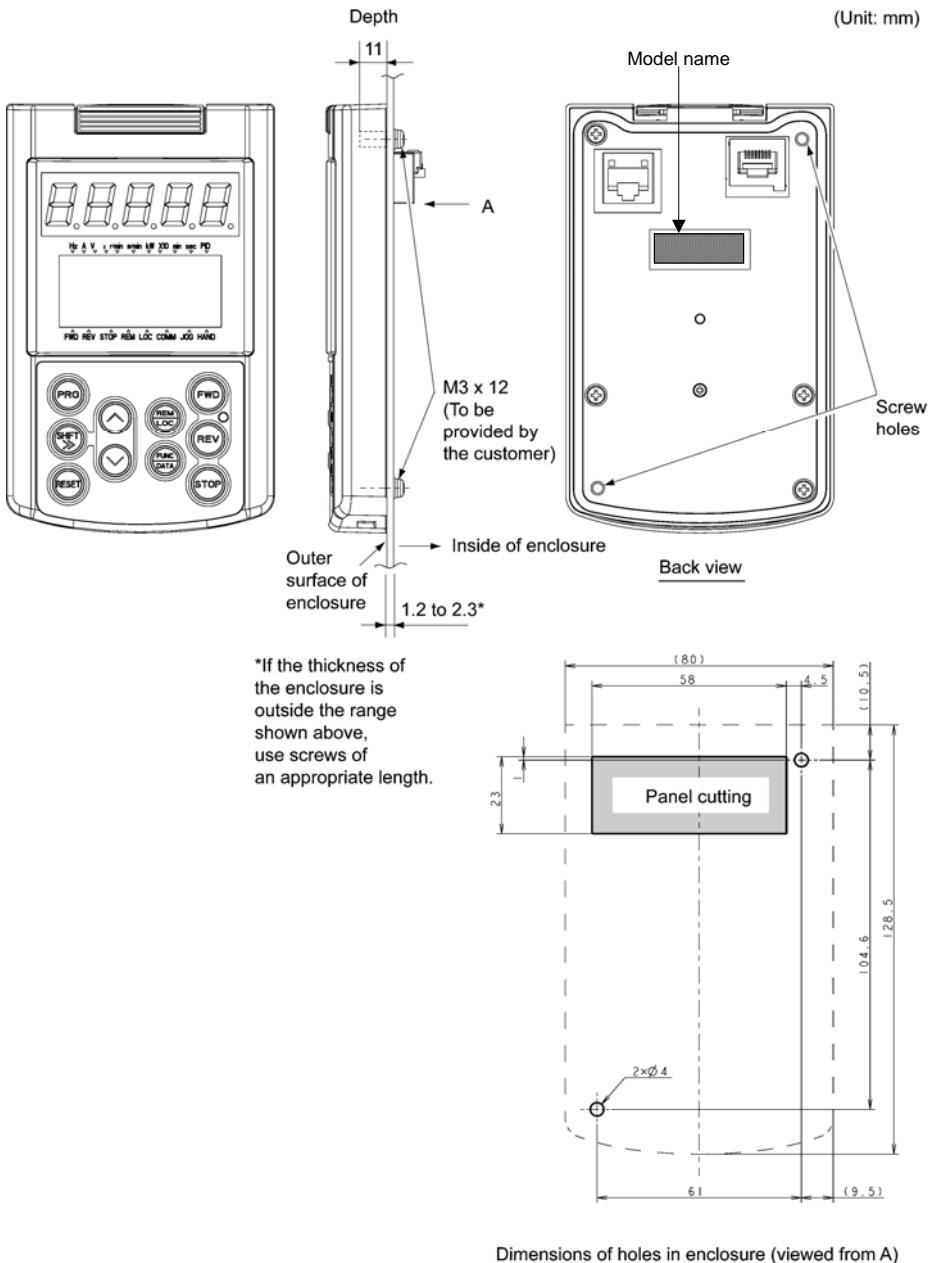

Figure 2.7 Dimensions of Square Cut-out and Screw Holes
\*2: Use the screws of the length just right for the panel. (See Figure 2.7.)
- ① Cut the panel out for a single square area and perforate two screw holes in the panel of the enclosure as shown in Figure 2.7.